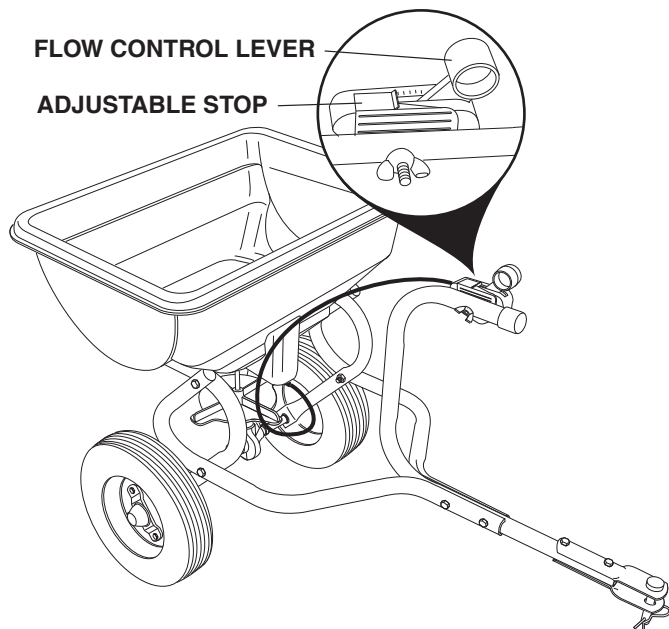

FIGURE 5
2. Slide the Adjustable stop to the desired setting and retighten the wing nut. See figure 5.